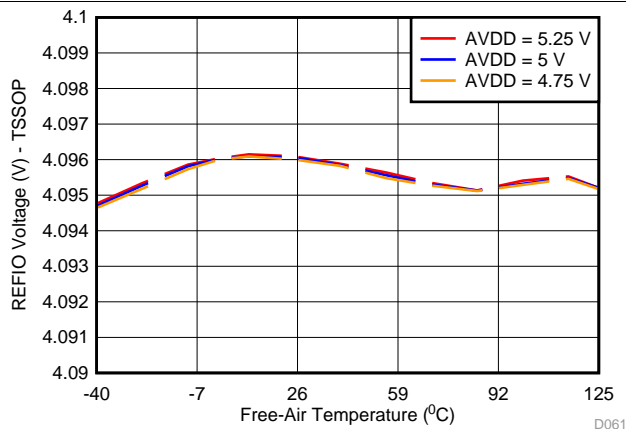
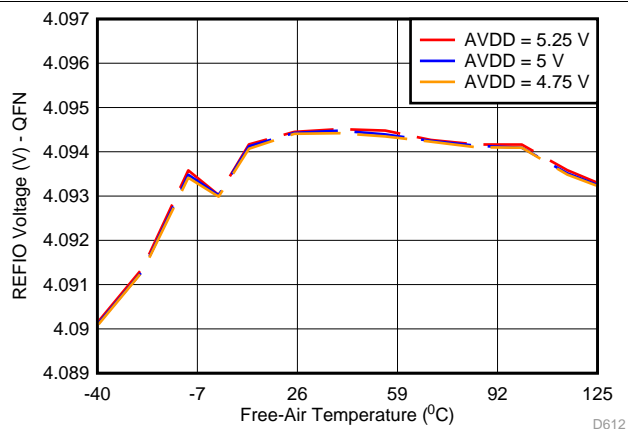
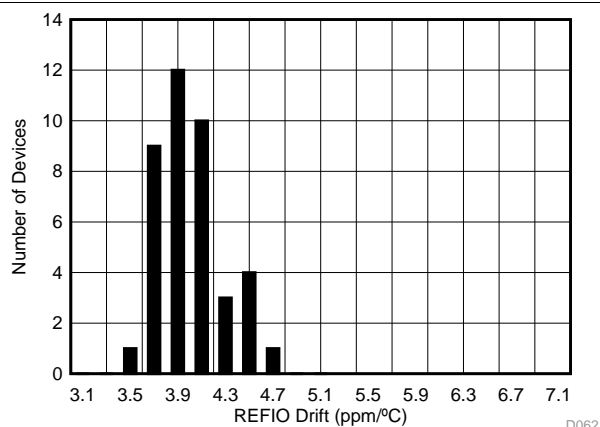
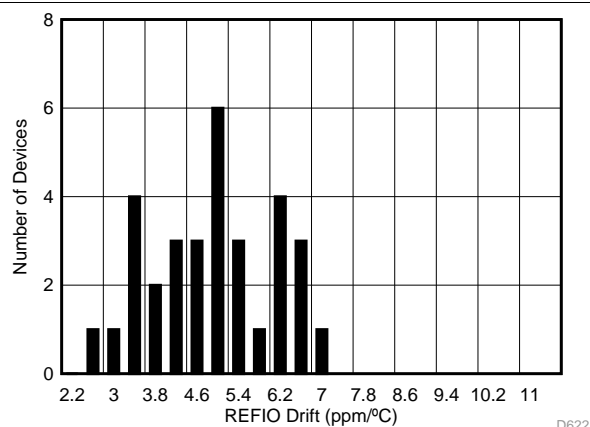

Figure 55. REFIO Voltage Variation Across AVDD and Temperature (PW Package)
Figure 56. REFIO Voltage Variation Across AVDD and Temperature (RUM Package)
Figure 57. Internal Reference Temperature Drift Histogram (PW Package)
Figure 58. Internal Reference Temperature Drift Histogram (RUM Package)
The internal reference is also temperature compensated to provide excellent temperature drift over an extended industrial temperature range of -40°C to $+125^{\circ}\text{C}$. Figure 55 and Figure 56 show the variation of the internal reference voltage across temperature for different values of the AVDD supply voltage. Note that the temperature drift of the internal reference is also a function of the package type. Figure 57 and Figure 58 show histogram distribution of the reference voltage drift for the TSSOP (PW) and WQFN (RUM) packages, respectively.